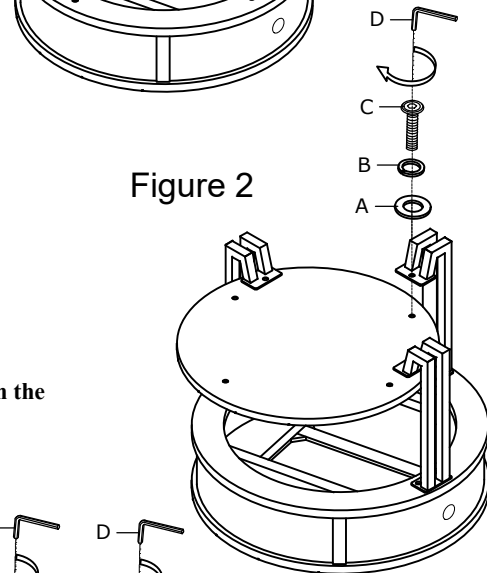

Figure 2
3. Attach the shelf to the three legs using Flat Washer (A), Lock Washer (B) and Bolt (C), tighten with the Allen Wrench (D). As Shown in Figure 2. (Do not over tighten bolts during assembly.)